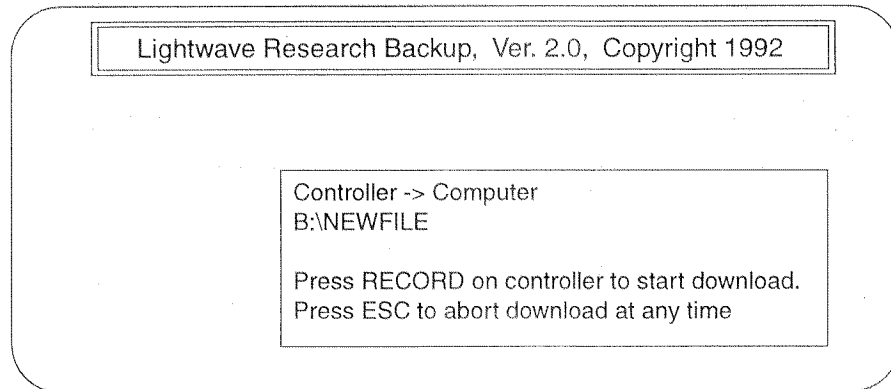

Figure 7.5. Start Downloading from Controller to Computer
6. Press the RECORD key again and the transfer begins downloading data to the computer. Refer to Figure 7.5.